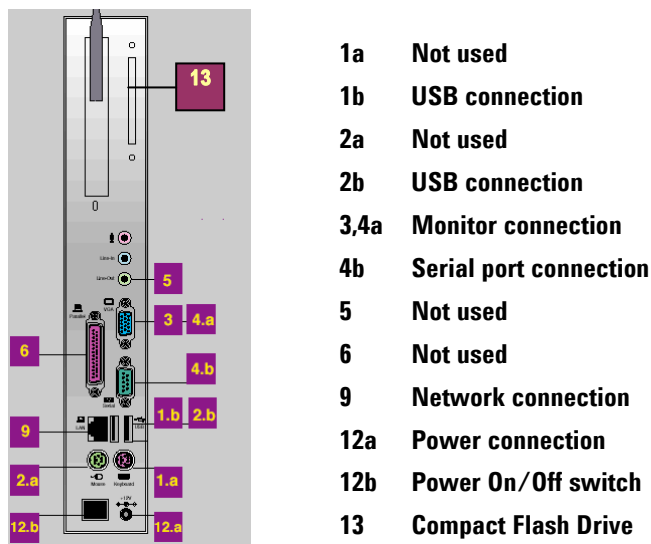

Figure 1
5. Connect one end of the network crossover cable (Part Number G4690-60000) to the computer and the other end to the main network port of the Agilent Instrument Controller if more than one network port is available. (See Figure 1.)
Connect the SS420x interface to the Agilent Instrument Controller using the serial communications cable provided. Connect one end of the cable to the serial port on the back of the SS420x. Connect the other end of the cable to the serial port on the Agilent Instrument Controller (see Figure 1.) Make sure each connector is tightened.
Connect the instruments you will be using with the Agilent Instrument Controller. If you are using a digital instrument, connect it to the Agilent Instrument Controller using the appropriate connector on the back of the Agilent Instrument Controller (see Figure 1.)